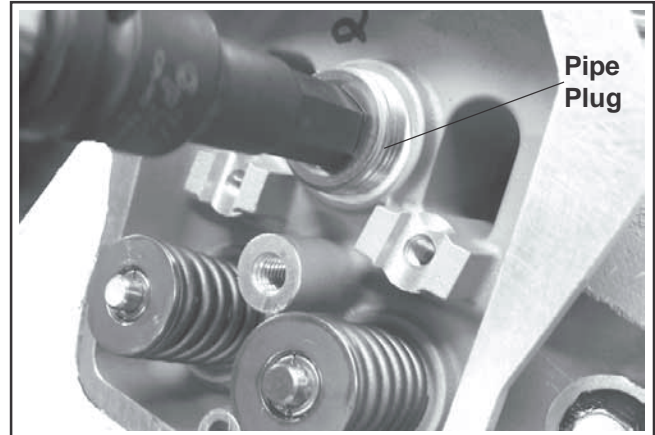

Figure 10-51. Installing Pipe Plug in Cylinder Heads.
6. Make sure the threads of the pipe plugs for the cylinder heads are clean and dry. Install a plug into each cylinder head above the No. 2 screw location and torque to 29.3 N·m (260 in. lb.). See Figure 10-51.